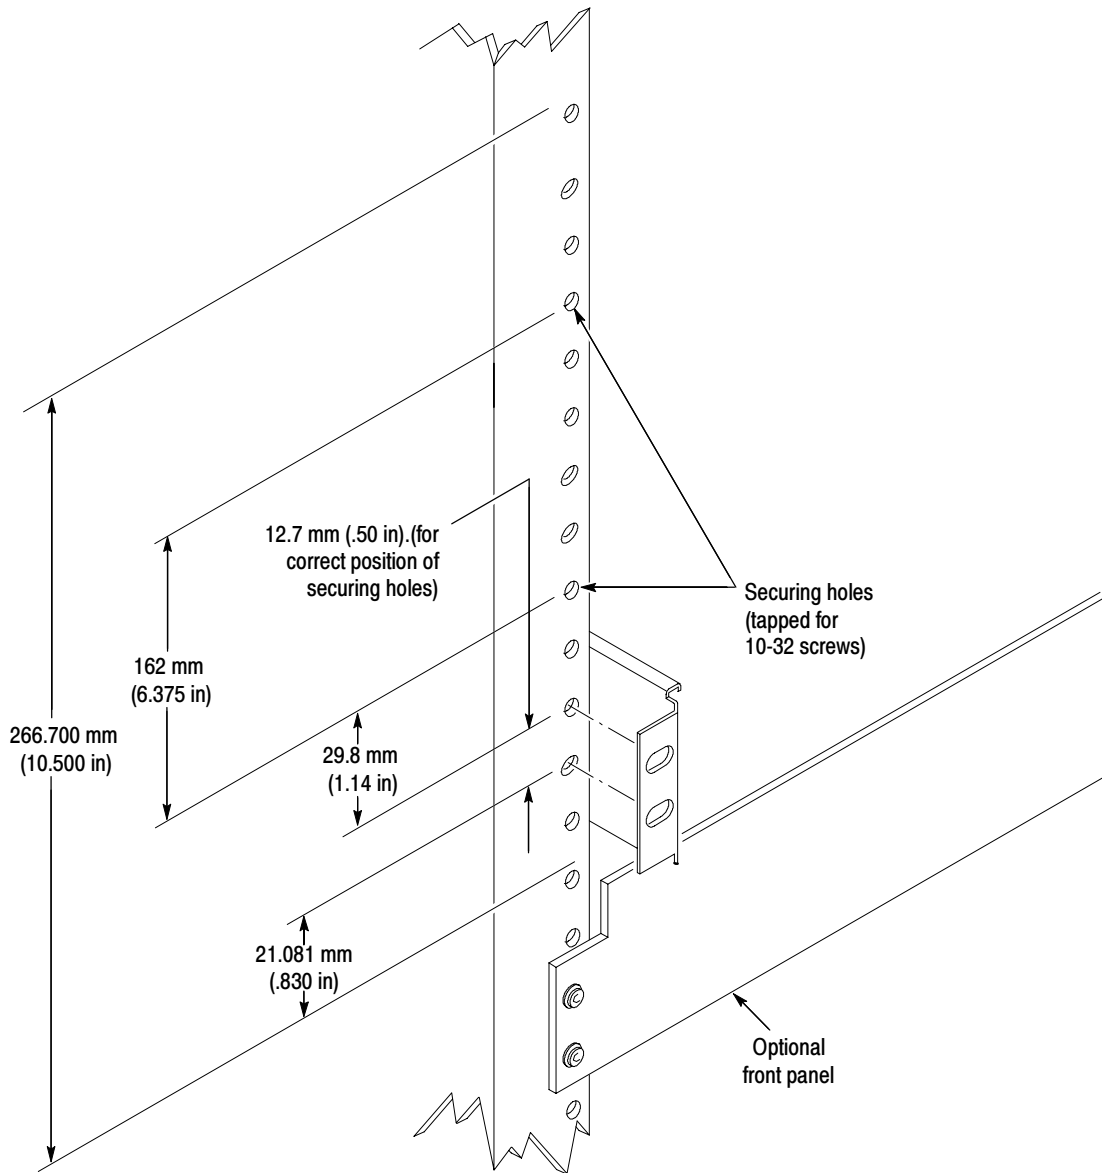

Figure 10: Vertical clearances for rack installation (left-front rail shown)
- a. *Select the mounting position in rack:* Select two ½ inch spaced holes in the front rail. Verify that the 10.500 inch clearances exist relative to those mounting holes. See Figure 10, page 20.